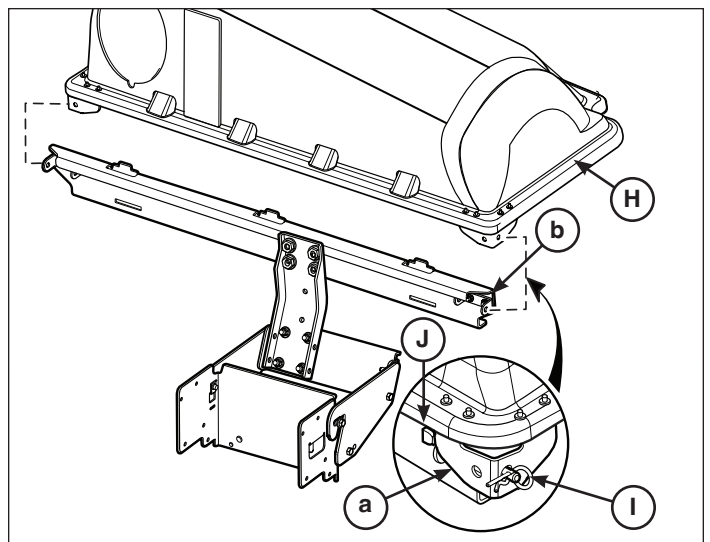

Figure 5
3. Put the corner brackets (**a**, Figure 5) on the cover assembly (**H**) on the pivot hinges (**b**). Install the hinge pins (**I**) and hair pins (**J**).